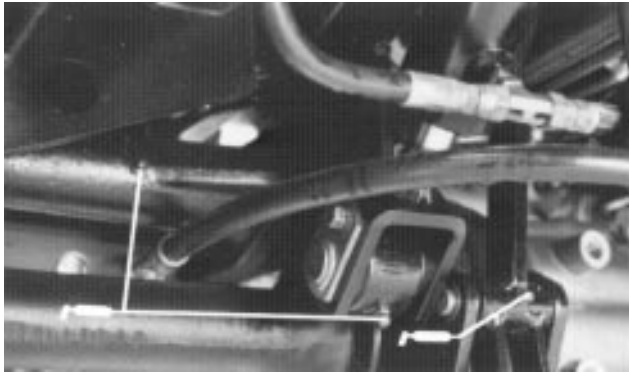
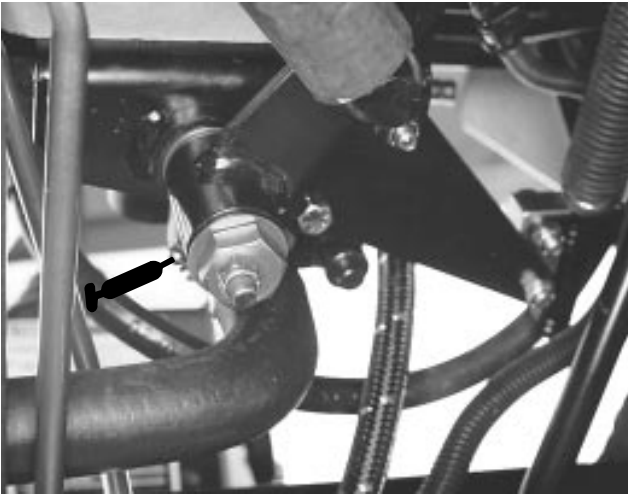

Figure 18
Figure 23
GREASING (Fig. 18–26)
1. The grease fittings that must be lubricated are: Lift arm pivot (2), lift cylinder (4), brake arm pivots (2) (Fig. 18); brake pivot (1), brake pivots (2) (Fig. 19); traction pedal pivot (1) (Fig. 20); engine to pump drive shaft (2) (Fig. 21 & 22); traction adjuster (1) (Fig. 23); P.T.O. Bearing (Fig. 24); center pivot (1) (Fig. 25); tie rod assembly (2), axle knuckles (2) cylinder ends (2) (Fig. 26).